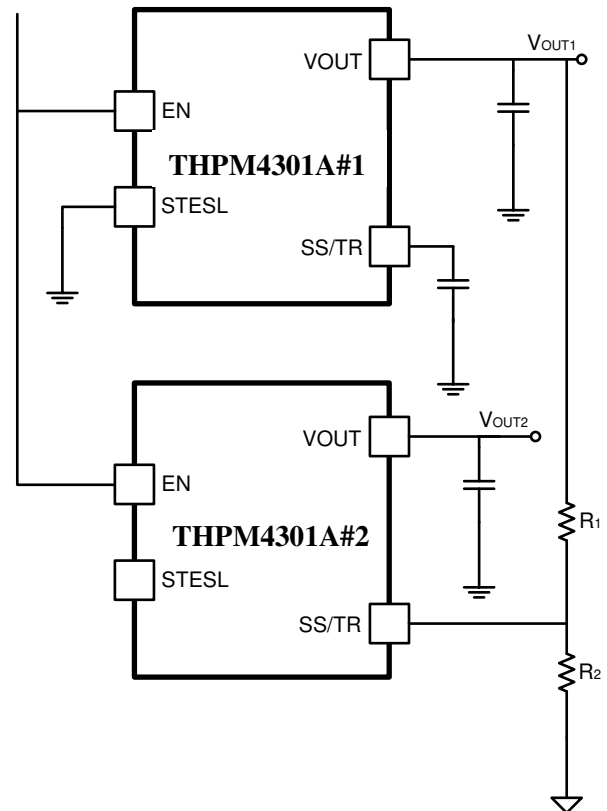

Fig. 30 Tracking Startup Schematic
With tracking mode the output voltage of the THPM4301A is controlled by another voltage applied to its SS/TR input. Tracking startup of two THPM4301A modules can be achieved by connecting a resistor network of R_1 and R_2 as shown in Fig. 30, where the output voltage of the second THPM4301A module (bottom) will track the output voltage of the first THPM4301A module (top). In this case, the soft-start time of THPM4301A module #1 is determined by the capacitor connected to its SS/TR pin and the STSEL pin is connected to ground. The voltage at SS / TR pin of the second THPM4301A module is directly controlled by the output voltage of the first THPM4301A module through the resistor divider (R_1 and R_2). The STSEL pin of the second THPM4301A module should be left open. Resistor divider R_1 and R_2 in Fig. 30 can be calculated using Equations (7) and (8). **Note:** The THPM4301A can track any external voltage, so the master can be a THPM4301A or any other POL.
Note: when used in tracking mode, if the slave unit (module #2 in Fig. 30) shuts down while the other module is still operating, a latch-up condition can occur where the slave unit does not restart. To avoid this, it is necessary to pull down the SS/TR pin of module #2 to below 60mV momentarily, to initiate a normal start-up sequence.